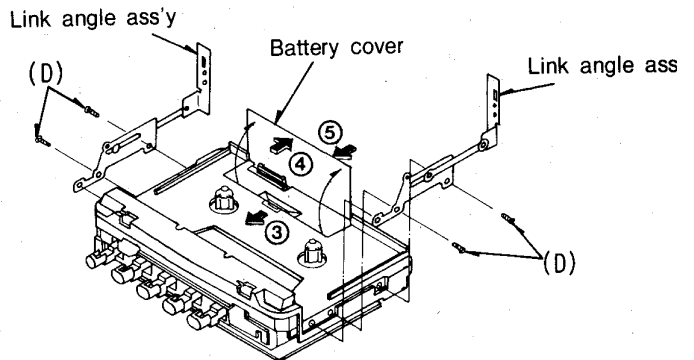

Fig. 5
- Open the battery cover in the direction of arrow ③. (See Fig.5)
- Remove the battery cover in the direction of arrow ④ and ⑤ (See Fig.5)
- Remove the screw (D) (1.7×3)mm×4 (See Fig.5)